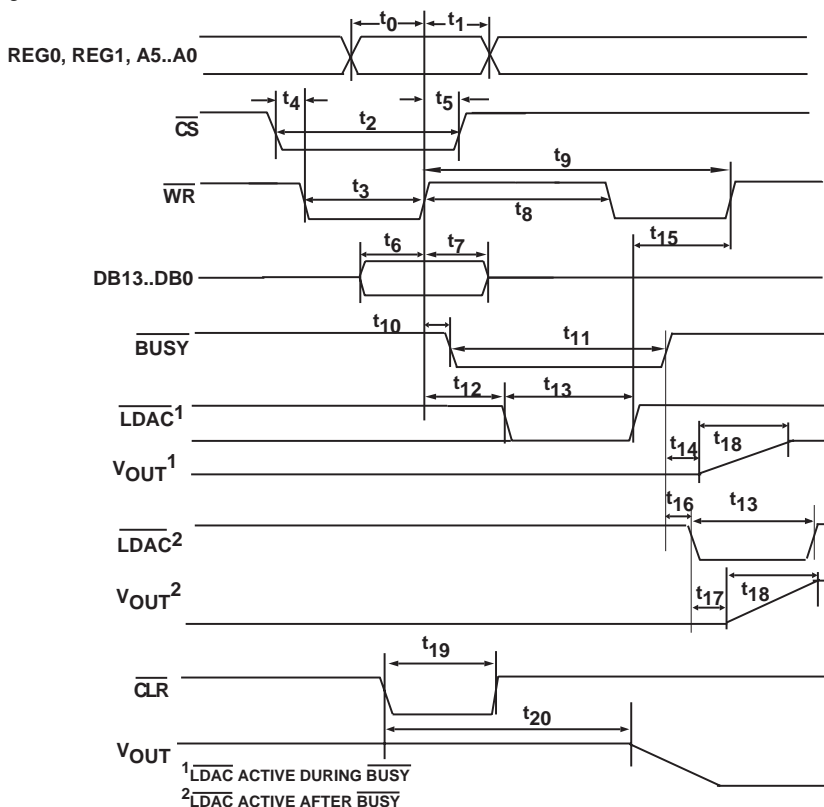

Figure 6. Parallel Interface Timing Diagram
- ³See Timing Diagram in Figure 6.